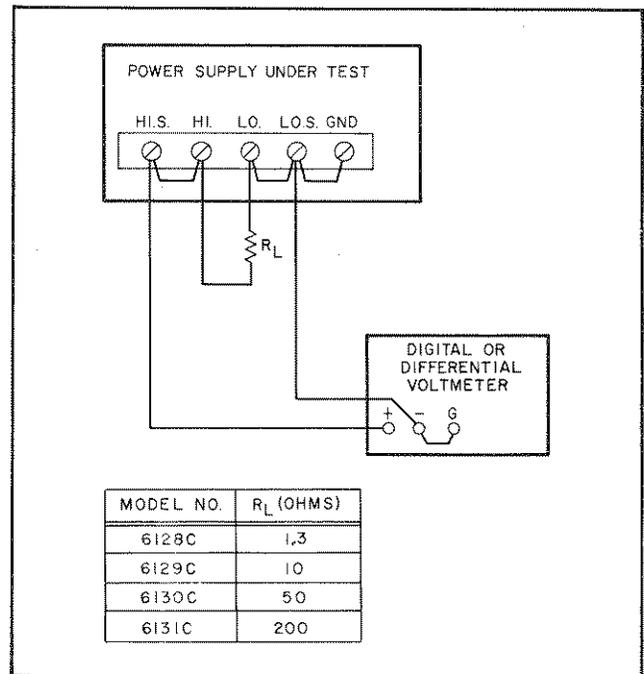

Figure 5-1. Constant Voltage Load Regulation Test Setup
- a. Connect test setup shown in Figure 5-1. Set the METER switch to the highest voltage and current ranges.
a. Connect test setup shown in Figure 5-1. Set the METER switch to the highest voltage and current ranges.
a. Connect test setup shown in Figure 5-1.